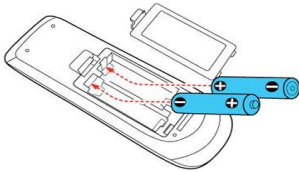

Fig. 3.5 Replace used batteries
Step 2 – Remove the old batteries as shown in Figure 3.5.